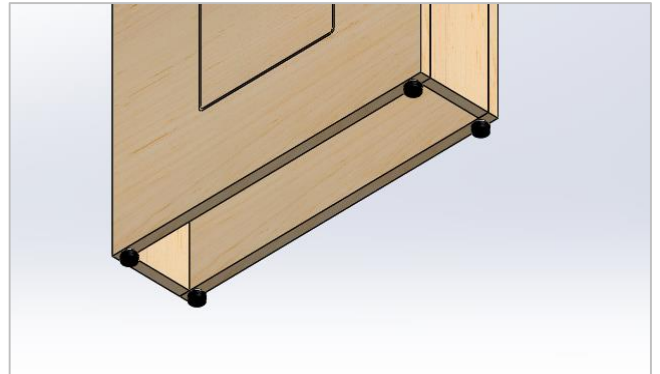

Figure 8
5. Make sure to adjust leveling of bases prior to attaching to work surface. (Figure 8)